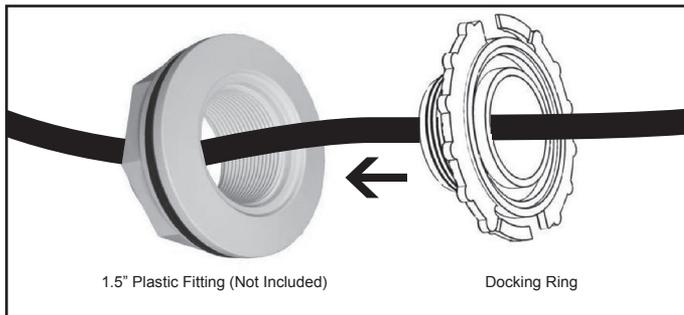

Figure 2. Install the docking ring securely to the 1.5" pool wall fitting
2. Remove the docking ring from the light and attach the docking ring to the 1.5" pool fitting. See Figure 2.